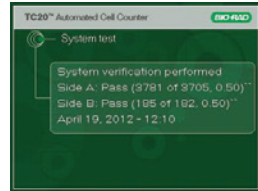

Fig. 20. System verification results.
13. The results of the system test are displayed on the System test screen (Figure 20). For each sample, a Pass or Fail result is reported, along with the number of objects found and expected, and the ratio of live objects (example: Pass 218 of 221, 0.50). The number expected can change each time the test is repeated, due to slight variations in slide position.